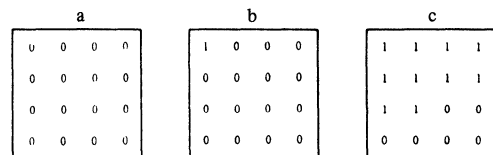

Figure 1 Addressing method for 16 bit memory in the Marching pattern
- (1) Clear all bits See Fig. 1 (a)
- (2) Read "0" from 0th address and check that the read data is "0". Hereafter, "Read" means "checking and judging data"
- (3) Write "1" on 0th address. See Fig. 1(b)
- (4) Read "0" from 1st address.
- (5) Write "1" on 1st address.
- (6) Read "0" from nth address.
- (7) Write "1" on nth address See Fig. 1(c)
- (8) Repeat (6) to (7) to the last address. Finally, all data will be "1".
- (9) After all data become "1", repeat from (2) to (8) replacing "0" and "1".